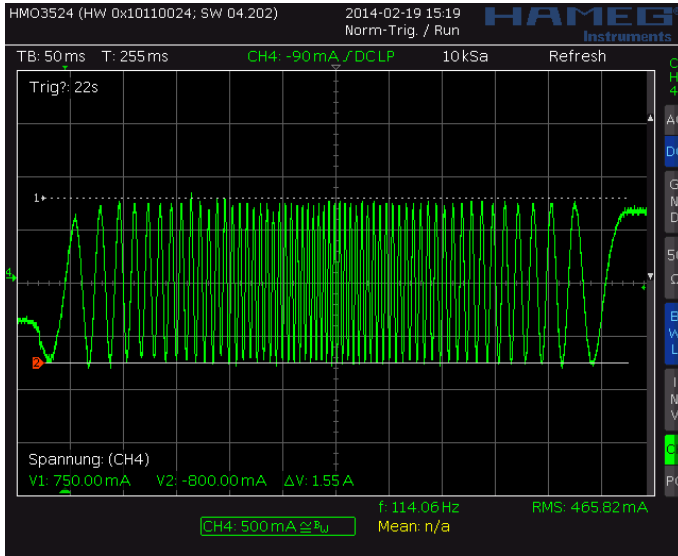
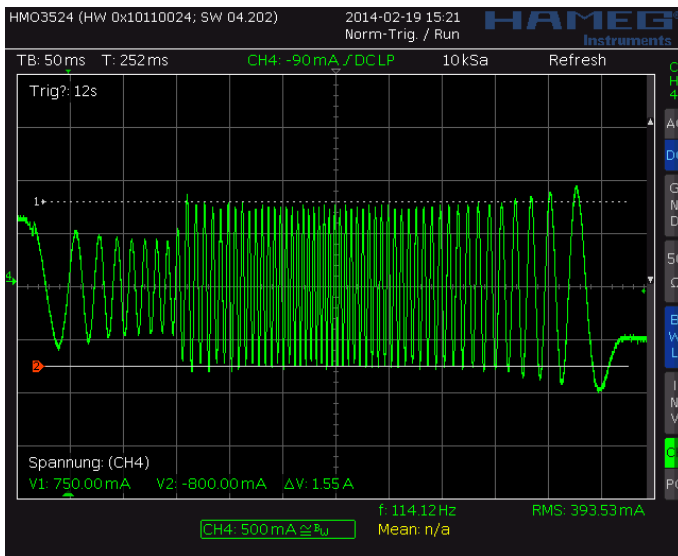
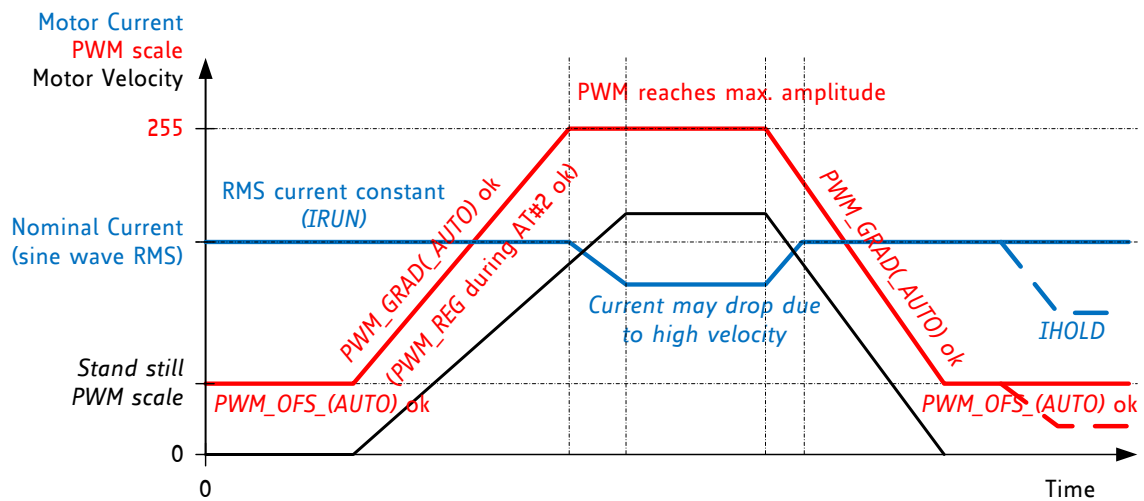

Figure 6.3 Scope shot: good setting for PWM_REG
Figure 6.4 Scope shot: too small setting for PWM_REG during AT#2
Figure 6.5 Successfully determined PWM_GRAD(AUTO) and PWM_OFs(AUTO)
In StealthChop voltage PWM mode, the autoscaling function ($pwm_autoscale = 1$, $pwm_autograd = 1$) regulates the motor current to the desired current setting. Automatic scaling is used as part of the automatic tuning process (AT), and for subsequent tracking of changes within the motor parameters. The driver measures the motor current during the chopper on time and uses a proportional regulator to regulate PWM_SCALE_AUTO in order match the motor current to the target current. PWM_REG is the proportionality coefficient for this regulator. Basically, the proportionality coefficient should be as small as possible to get a stable and soft regulation behavior, but it must be large enough to allow the driver to quickly react to changes caused by variation of the motor target current (e.g., change of VREF). During initial tuning step AT#2, PWM_REG also compensates for the change of motor velocity. Therefore, a high acceleration during AT#2 will require a higher setting of PWM_REG . With careful selection of homing velocity and acceleration, a minimum setting of the regulation gradient often is sufficient ($PWM_REG=1$). PWM_REG setting should be optimized for the fastest required acceleration and deceleration ramp (compare Figure 6.3 and Figure 6.4). The quality of the setting PWM_REG in phase AT#2 and the finished automatic tuning procedure (or non-automatic settings for PWM_OFS and PWM_GRAD) can be examined when monitoring motor current during an acceleration phase Figure 6.5.